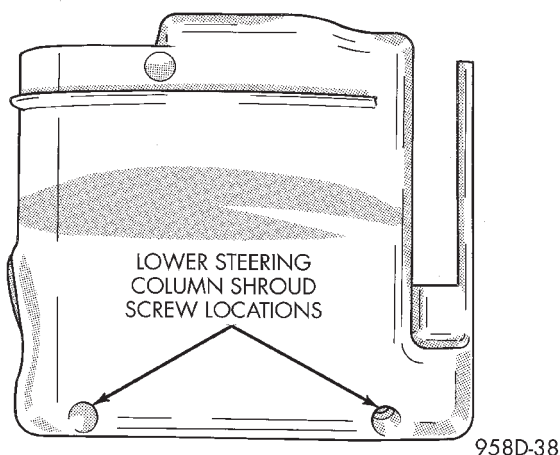

Fig. 58 Lower Steering Column Shroud Screw Locations
(6) Remove lower knee bolster screws and knee bolster.
(7) Remove screws from lower steering column shroud (Fig. 58).